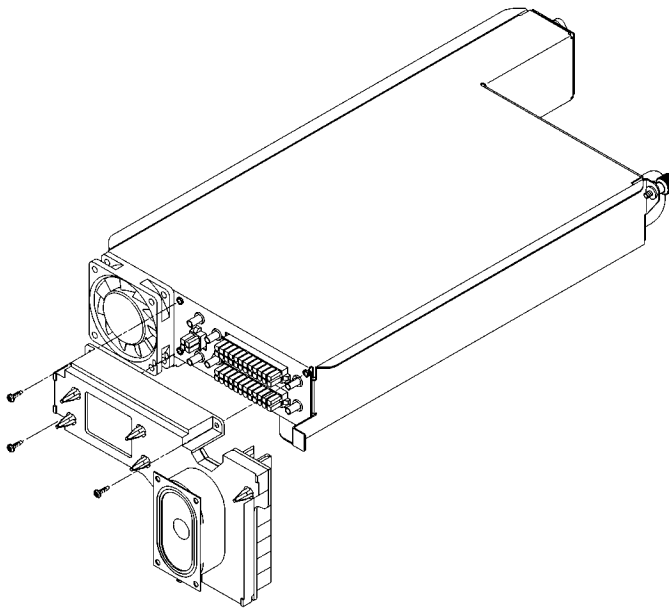

Figure 61 **Removing the Power Interconnect Board**
- 1 Remove the three screws that secure the power interconnect board to the power supply, as shown in Figure 61.